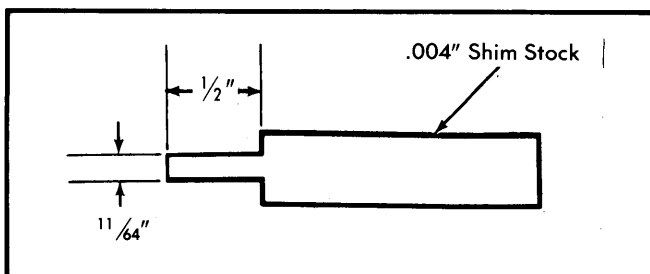

Fig. 5 Rear Main Bearing Oil Seal Installation Tool
3) Check components for scratches, nicks and defects. Before installation, fabricate a seal installation tool using a piece of .004" shim stock. See Fig. 5.